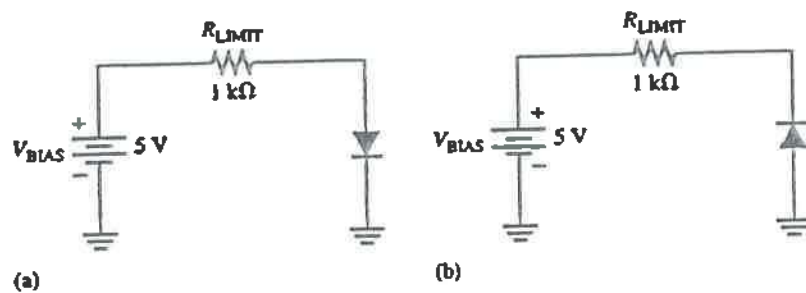

FIGURE 1-39
- (a) Determine the forward voltage and forward current for the diode in Figure 1-39(a) for each of the diode models. Also find the voltage across the limiting resistor in each case. Assume $r'_d = 10 \Omega$ at the determined value of forward current.
- (b) Determine the reverse voltage and reverse current for the diode in Figure 1-39(b) for each of the diode models. Also find the voltage across the limiting resistor in each case. Assume $I_R = 1 \mu\text{A}$.
Related Exercise Assume that the diode in Figure 1-39(a) fails open. What is the voltage across the diode and the voltage across the limiting resistor?